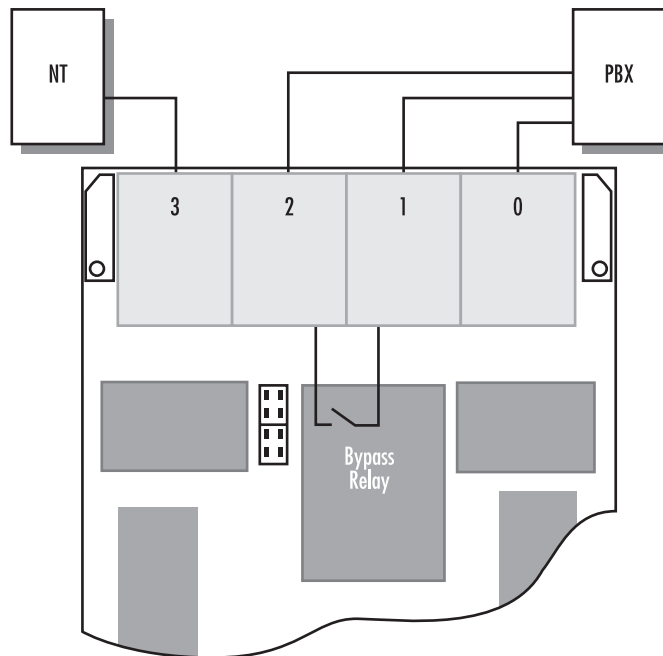

Figure 19. Three ports connected to the PBX and one port to the ISDN network
- Three ports (0, 1, 3) are connected to the PBX and one port (2) to the ISDN network (local breakout) as shown in figure 19 on page 37. The local breakout port can be used to route calls from and to the ISDN network. This is the fallback situation described in section “Hardware bypass” on page 35. When power fails or the bypass is manually activated, ports 1 and 2 are inter-connected through the bypass relay, providing a lifeline to the ISDN network.